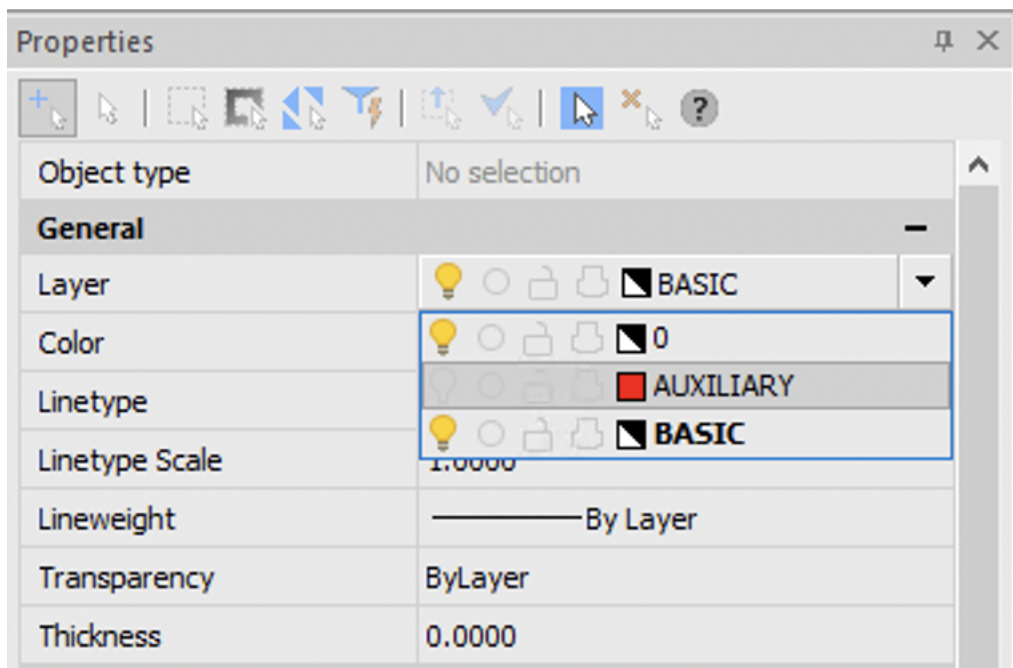

Fig. 7. Turning off layer visibility
1.7. Turn off the visibility of the **AUXILIARY** layer on the **Properties** bar by selecting it in the list of layers and clicking on the light bulb icon (Fig. 7).